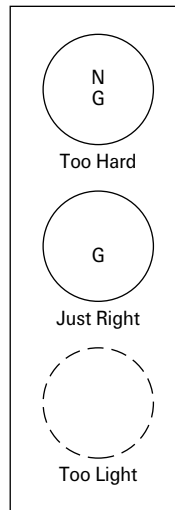

FIGURE 1.
- At the bottom of the die stroke, if a circle and a “G” are stamped in your metal panel, the die is set properly (see Fig. 1).
- If a circle and “NG” appears, the hit is too hard (see Fig. 1).
- If no mark appears, the hit is too light (see Fig. 1).